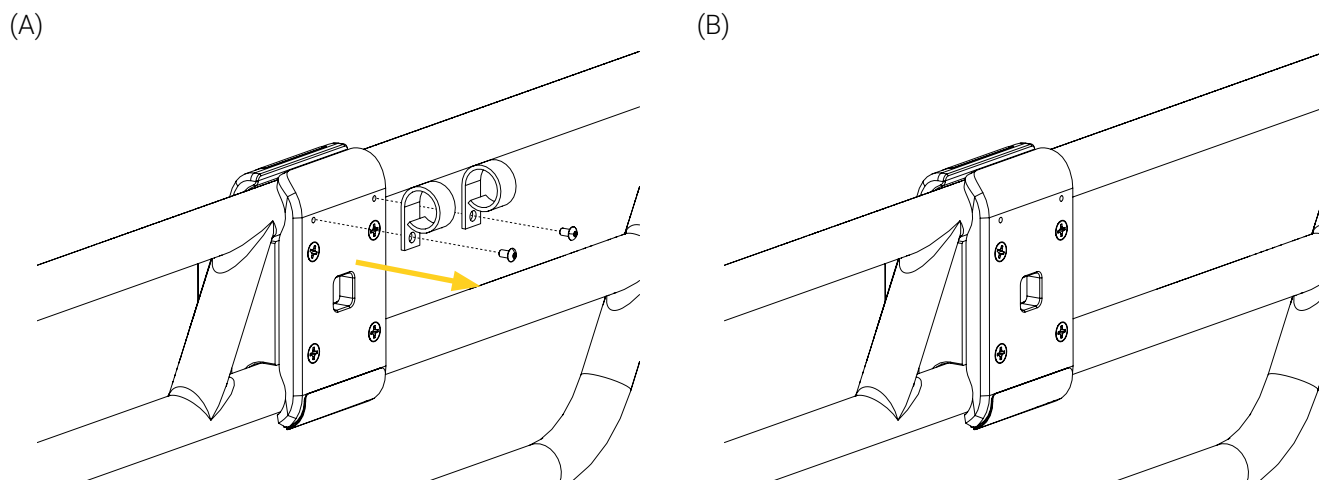

Figure 93: Removing the cable management hooks
3. Remove the two (2) screws and two (2) hooks from the clamp block using a $\frac{5}{64}$ in. hex key (Figure 93). The screws and hooks will **not** be reused. Refer to your established internal protocols and the environmental laws that apply to your jurisdiction for the proper disposal of the parts.